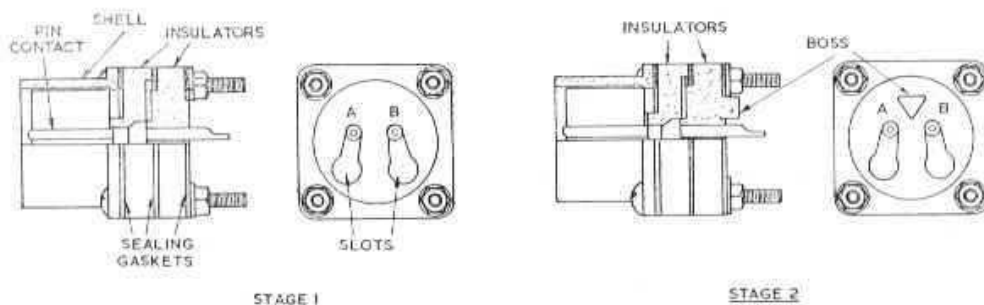

Fig. 13. Fixed unit (detachable leads), stages of development
27. This style of unit (fig. 13) was manufactured in a size A aluminium shell only for use on electric motors and other equipment where short leads only can be accommodated. In this unit the insulator holes are slotted so as to allow the pins to be slid through the widest parts of the slots. The pins are therefore removable from the insulator so that they can be more easily wired, re-inserted and subsequently withdrawn (when required) with the conductors still attached. The pins are suitable for soldering only.